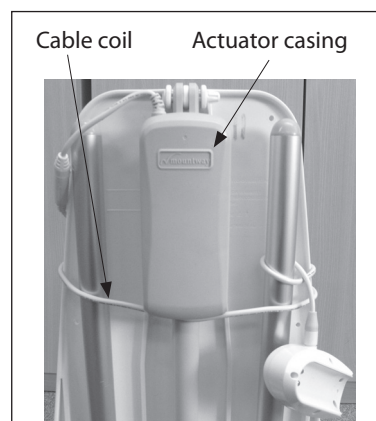

Figure 5
- Loop the remainder of the cable around one of the tubes (**fig 5**);
- v) Fill the bath/tub with water to the required level ensuring the actuator casing (**see fig 5**) is not submerged in water. Check that the water temperature is not too hot before using the bath lift.